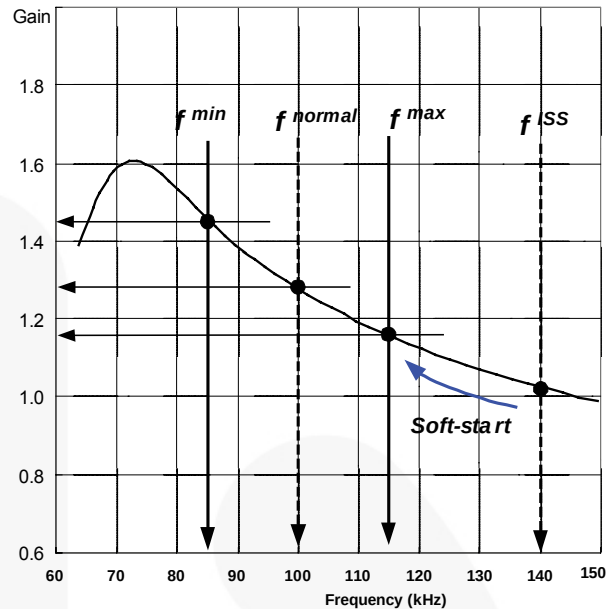
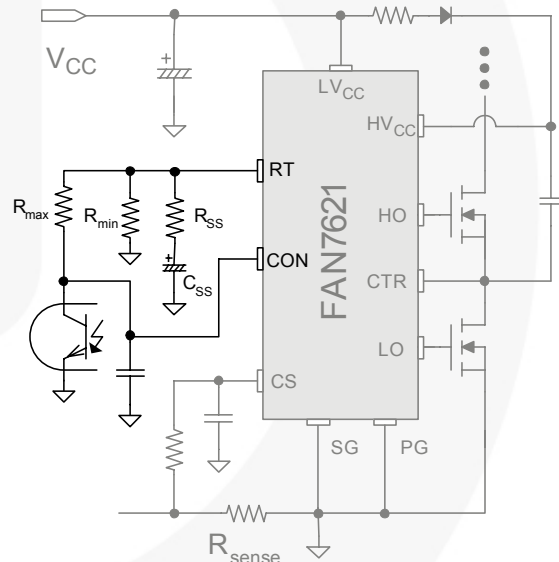
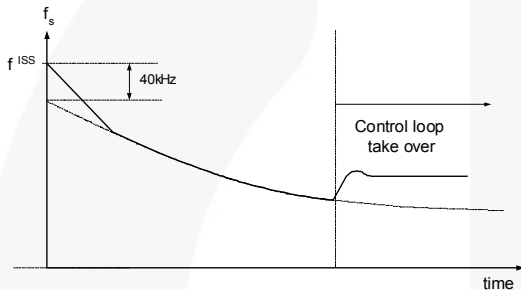

Figure 18. Resonant Converter Typical Gain Curve
Figure 19. Frequency Control Circuit
Figure 20. Frequency Sweeping of Soft-Start
3. Frequency Setting: Figure 18 shows the typical voltage gain curve of a resonant converter, where the gain is inversely proportional to the switching frequency in the ZVS region. The output voltage can be regulated by modulating the switching frequency. Figure 19 shows the typical circuit configuration for R_T pin, where the opto-coupler transistor is connected to the R_T pin to modulate the switching frequency.
implemented by sweeping down the switching frequency from an initial high frequency (f^{ISS}) until the output voltage is established. The soft-start circuit is made by connecting R-C series network on the R_T pin, as shown in Figure 19. FAN7621 also has an internal soft-start for 3ms to reduce the current overshoot during the initial cycles, which adds 40kHz to the initial frequency of the external soft-start circuit, as shown in Figure 20. The initial frequency of the soft-start is given as: